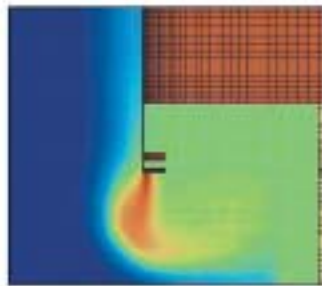

Fig. 2
- Fig. 2 shows the effect on the conditioned space when an inadequately selected Air Curtain is used,